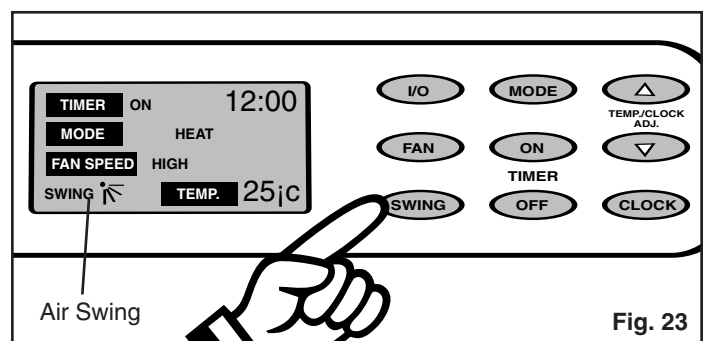

Fig. 23
- 4) Press the **SWING** key to activate the automatic air swing (oscillating) feature, (the "air swing" symbol will appear in the **LCD** window). *Fig. 23*. To deactivate the air swing feature, press the **SWING** key again.